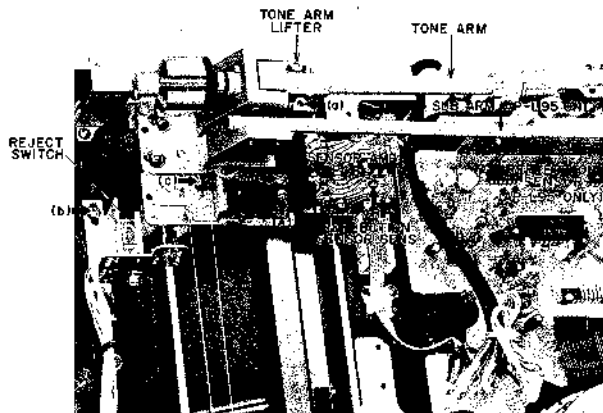

Fig. 20
1. TONE ARM LIFTER HEIGHT ADJUSTMENT (Refer to Fig. 20)
(Refer to Figs. 20, 23, 24)
- 4) If the stylus lowers at a point too far out or in, loosen the screw (b) (Fig. 20), and adjust by changing the position of the REJECT switch. (The stylus' lowering position will change inward if the REJECT switch is moved to the front, or outward if the switch is moved to the rear).
ADJUSTMENT (Refer to Figs. 20, 22)
- 4) Short Pin (1) and Pin (3) of Syscon P.C Board P6.
- 5) Connect Pin (1) of P6 to the digital voltmeter's (-) and Pin (2) to its (+).
- 7) Adjust the screw (c) (Fig. 20) until the digital voltmeter reads $-0.25 \pm 0.55V$ DC.
(AP-L95/C) (Refer to Figs. 20, 26)
- 8) Adjust VR1 (Fig. 20 Sensor Amp P.C Board) so that the digital voltmeter reads $-1.0 \pm 0.2V$ DC at this time.
7. REFLECTION SENSOR POSITION ADJUSTMENT (AP-L95/C) (Refer to Fig. 20)
- 5) If the stylus fails to go down in the interval center, loosen the screw (d) (Fig. 20), and adjust by turning CAM (e).